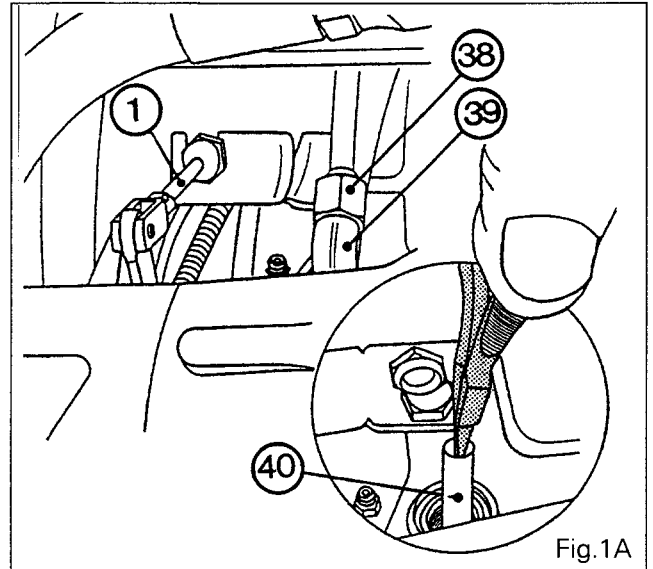

Fig. 1A
2. Disconnect the supply tube (38), unscrew the connector (39) and withdraw the tube (40) (Fig. 1A).
If access to the connector (39) is difficult on "economy 4-speed PTO" tractors, remove the control (1) (Fig. 1A).
19. Fit the tube (40) and the connector (39) (Fig. 1A).
23. Disconnect the pressure gauge and connect the supply pipe **(38)** (Fig. 1A).
25. Check for leaks of the supply pipe **(38)** (Fig. 1A) and the operation of the differential lock.